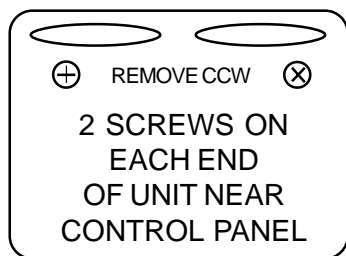

FIGURE 1
STEP 1 (FIG. 1), REMOVE 4 PANEL SCREWS BY TURNING COUNTERCLOCKWISE (CCW).